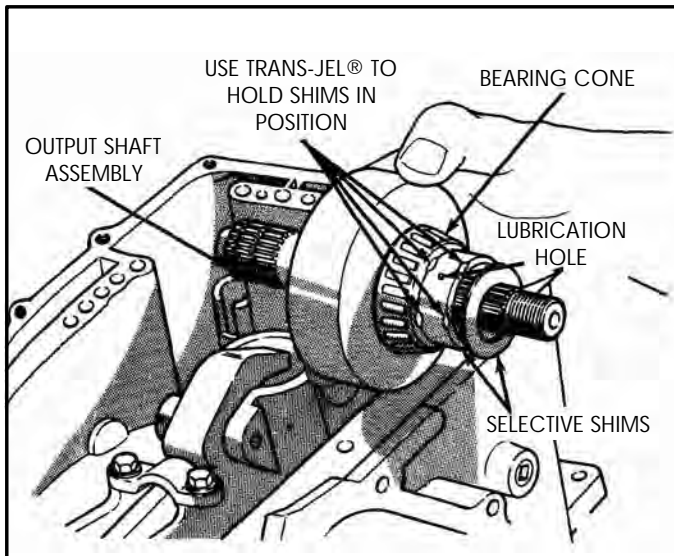

Figure 174
1. Install the 13.65 mm (.537") and the 1.34 mm (.053")gaging shims on the rear planetary ring gear hub using TransJel® to hold the shims in place, as shown in Figure 174.